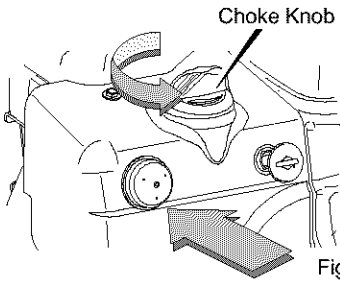

Figure 22
2. Turn the rotary choke knob to the **CHOKE** position (see Figure 22).
3. Depress the primer button three times (see Figure 22).